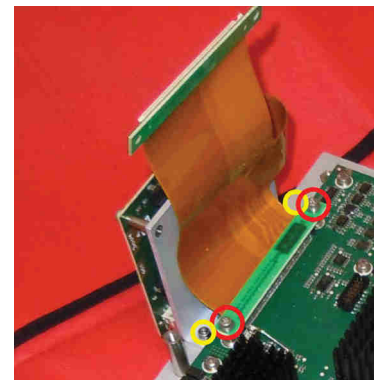

Fig. 7.20 Removal of Board
- 8 Remove two screws and two nuts holding the connector and the support angle, respectively. See Fig. 7.20 \(p. 122\) - red circles indicate two screws on connector (tools 1/7), yellow circles indicate the two nuts holding the support angle (tools 1/2).